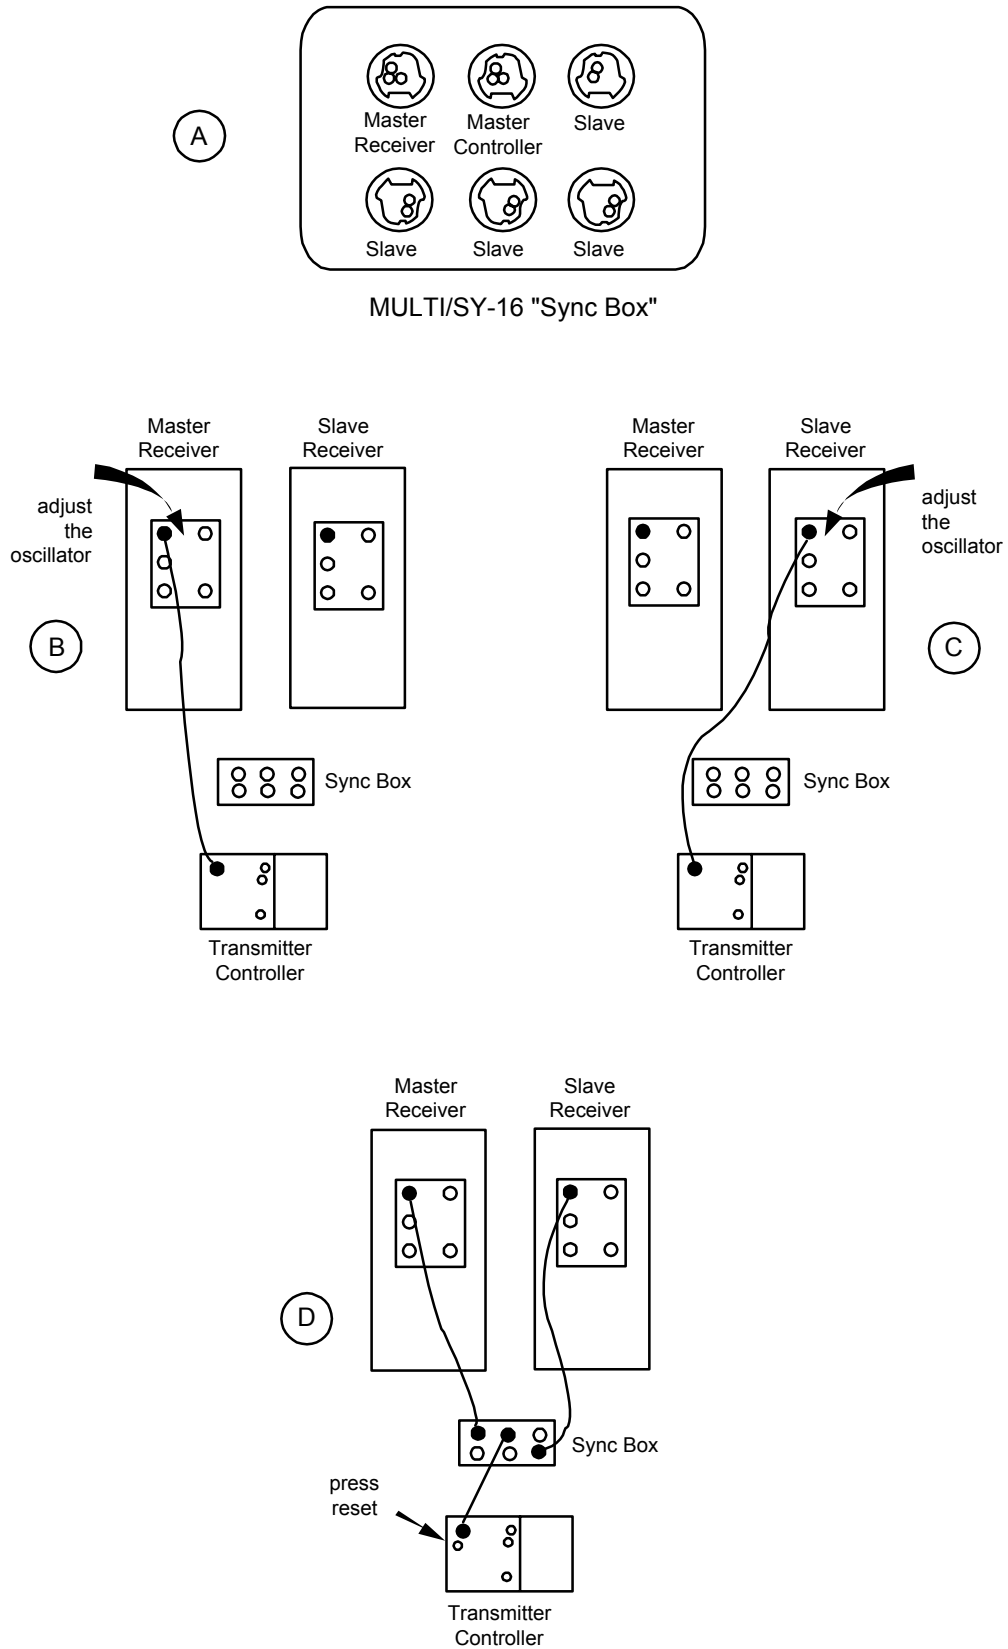

Figure 6.5 - Synchronizing a system of multiple receivers with the older MULTI/SY-16 Synchronization Box.
1. Obtain a MULTI/SY-16 Sync Box (Figure 6.5(a)) and extra synchronization cables (one per receiver) from Zonge Engineering. Designate one receiver as master and the rest as slave receivers.
2. Connect a synchronization cable between the Transmitter I/O port of the master GDP receiver and the transmitter controller's I/O port, as shown in Figure 6.5(b).
6. Make attachments as shown in Figure 6.5(d), being careful to connect the receivers and transmitter controller to the proper ports on the Sync Box.
1. Adjust each receiver individually, using the master transmitter controller as shown in Figure 6.5 (b) and (c).
4. Connect an additional cable between the slave controller's I/O port and any slave port on the Sync Box as shown in Figure 6.5(d).